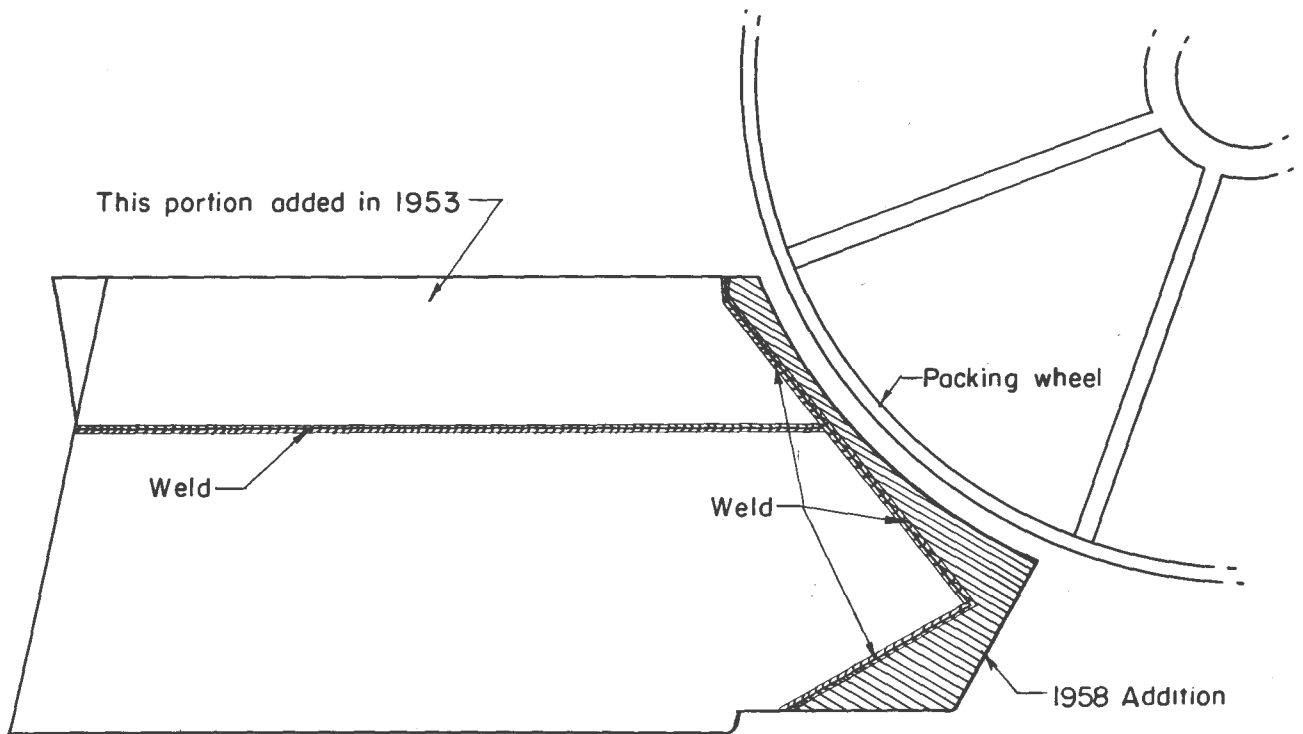

Figure 1.--Shoe modification for Holland transplanter.
The March 1954 issue of Tree Planters' Notes carried an article on modifications developed at that time on the Holland transplant machine. However, further improvements are now necessary because: (1) The shoe did not complete the trench in time for the tree to be released and secured by the packing wheel, and (2) soil shifted in between the upper half of the shoe and the packing wheel. To correct these defects we found it necessary to add (fig. 1):